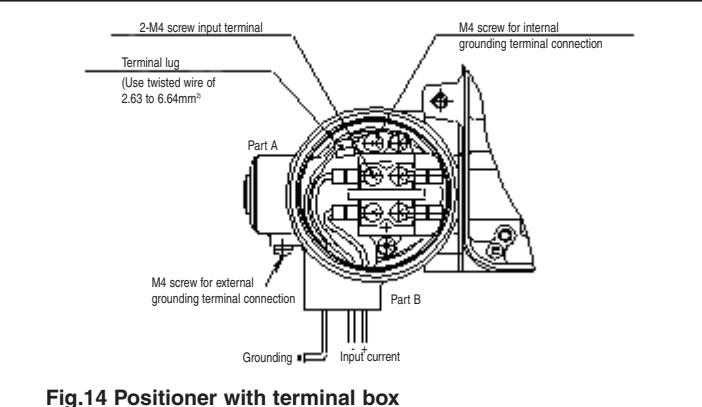

Fig.14 Positioner with terminal box
- (1) Connect the (+) and (-) output terminals from the regulator with the (+) and (-) input terminals, respectively, of the positioner terminal box. The port diameter at the conduction wire drawing port is the size of G1/2 parallel screw for piping and the depth is for a 16.5mm female screw.
- (2) Two drawing ports, marked as Part A and Part B in Fig.14, are provided. Use either one as fitted. (Part B is used in the figure).